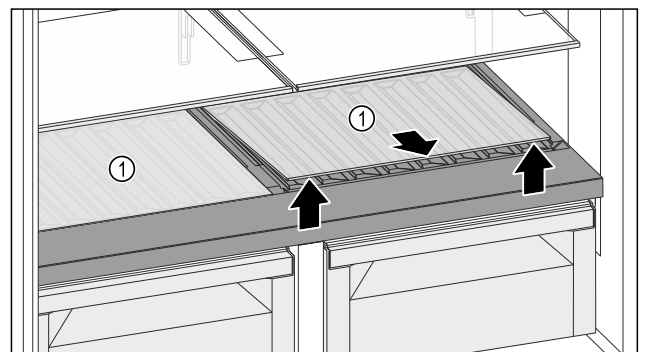

Fig. 134
- Lift one or both of the glass shelves Fig. 134 (1) in the front at the recess and pull it/them out.
- Store the glass shelf(ves) Fig. 134 (1) somewhere safe outside of the appliance.